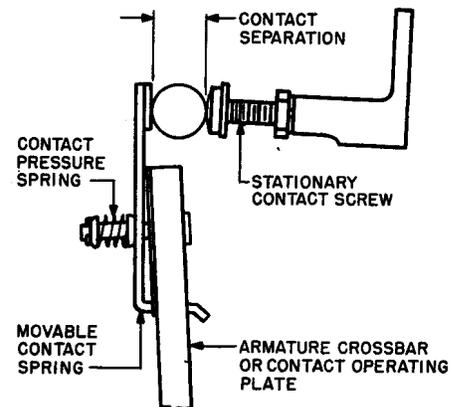

Fig. 5 – Position of Contacts for Contact Separation Measurement
- (1) **Single-Throw Contacts:** To check the separation between NC contacts, manually operate the armature with the KS-6320 orange stick. NO contacts should be measured with the relay in its unoperated position without any flexing of the contact pressure spring. (See Fig. 5.)
- (2) **Double-Throw (Transfer) Contacts:** The separation of each contact should be measured while its associated contact is just made, without any follow or flexing of the contact pressure spring. Move the armature manually as required with the KS-6320 orange stick.
- (3) **Cover Switch Contacts:** The cover switch contacts of the type 107S11 or 107S13 relay are in the terminal block at the inner end of position C. To check the requirement for these contacts, use the P-220366 dental mirror.
- (4) When necessary to open contacts to check the requirement, manually operate the relay by actuating the solenoid plunger. Contact separation should be measured without any flexing of the contact pressure spring. (See Fig. 5.)